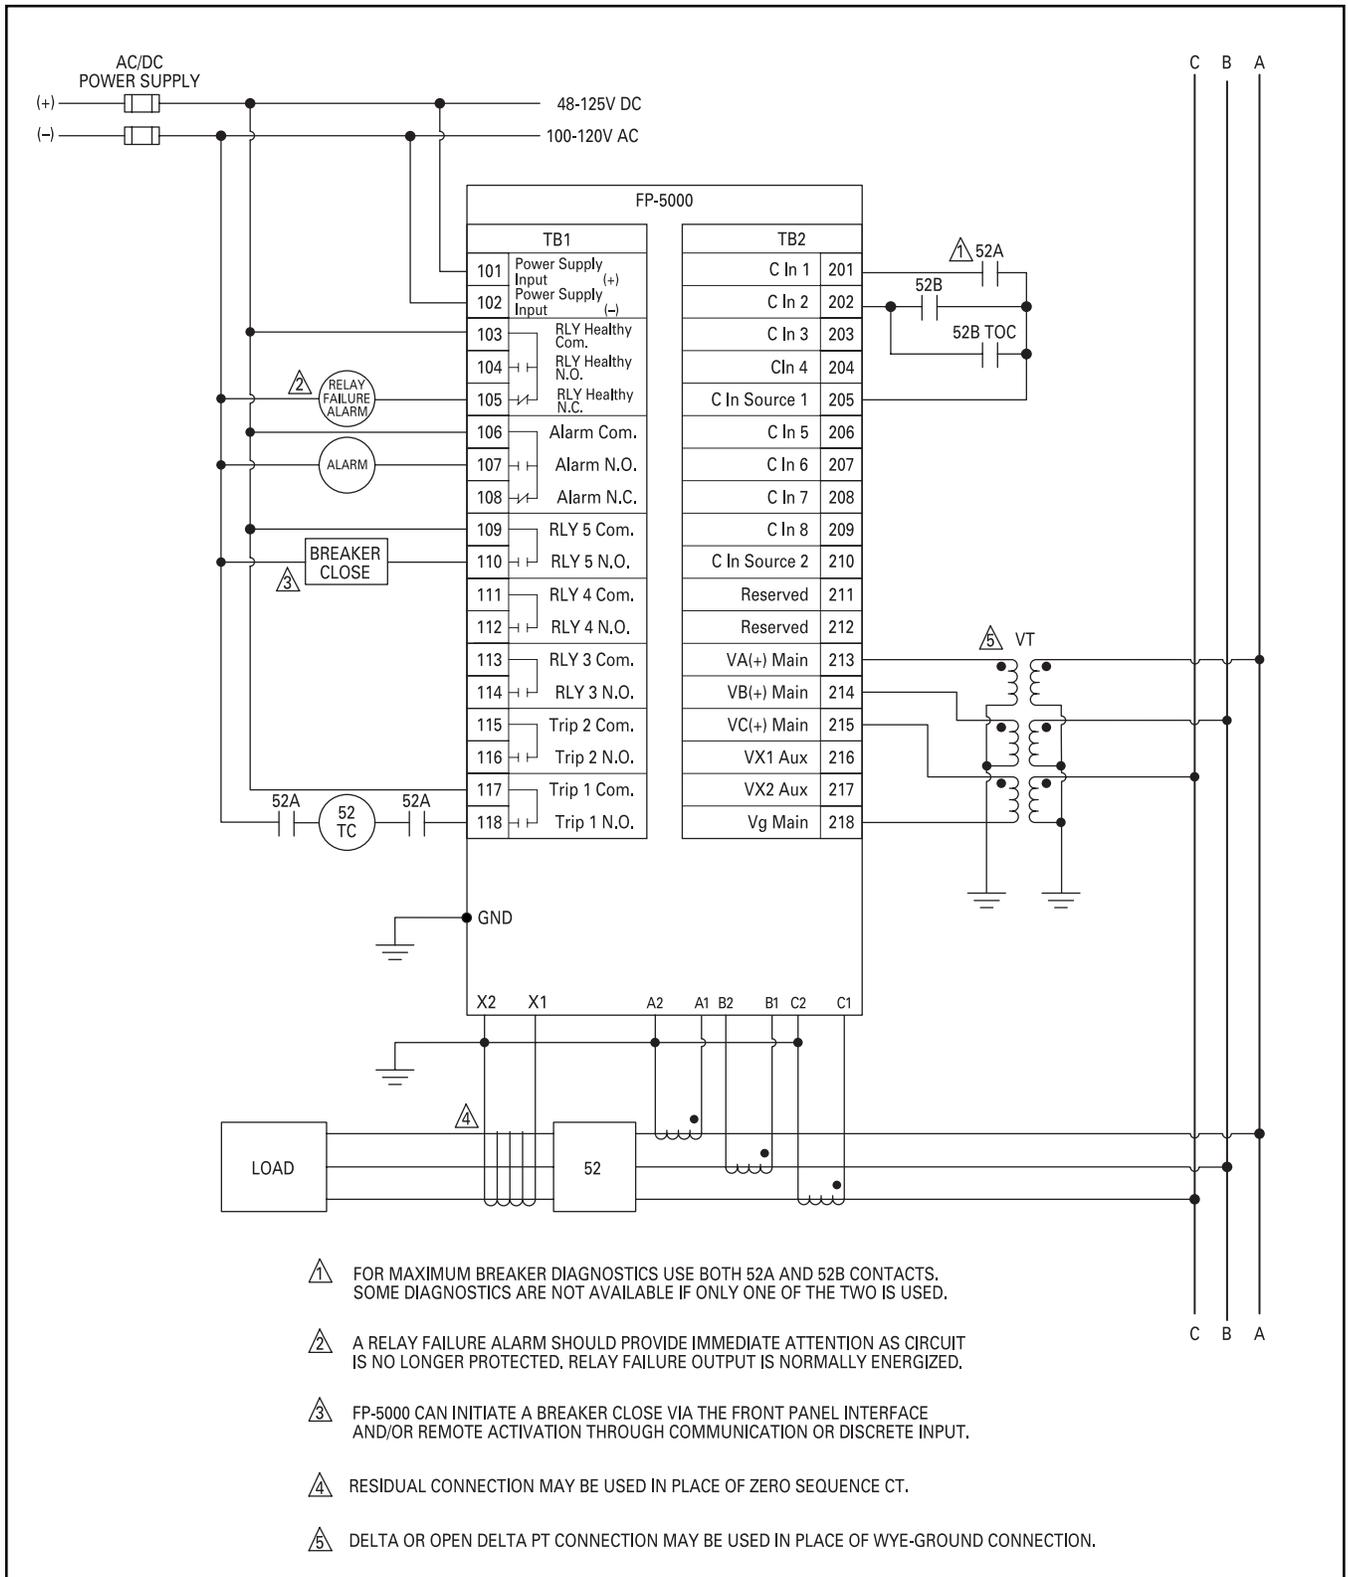
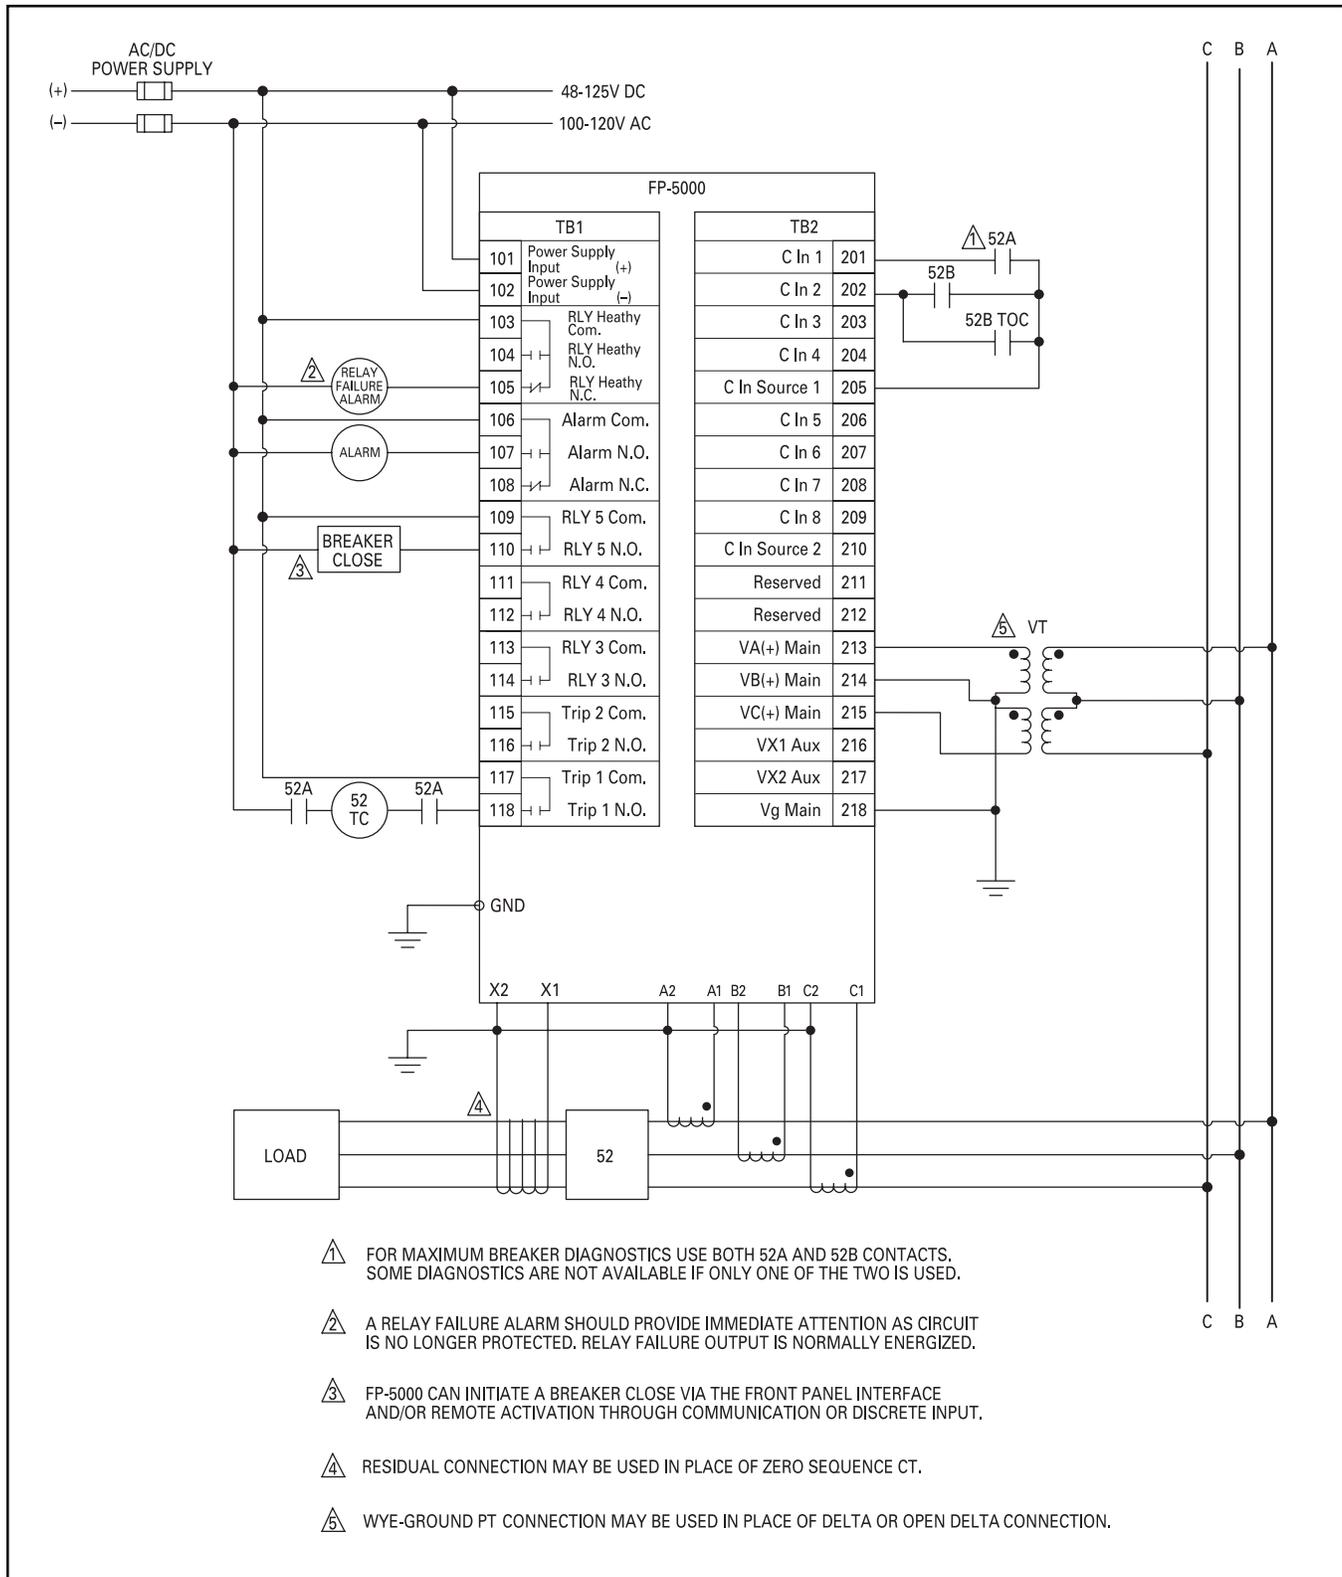
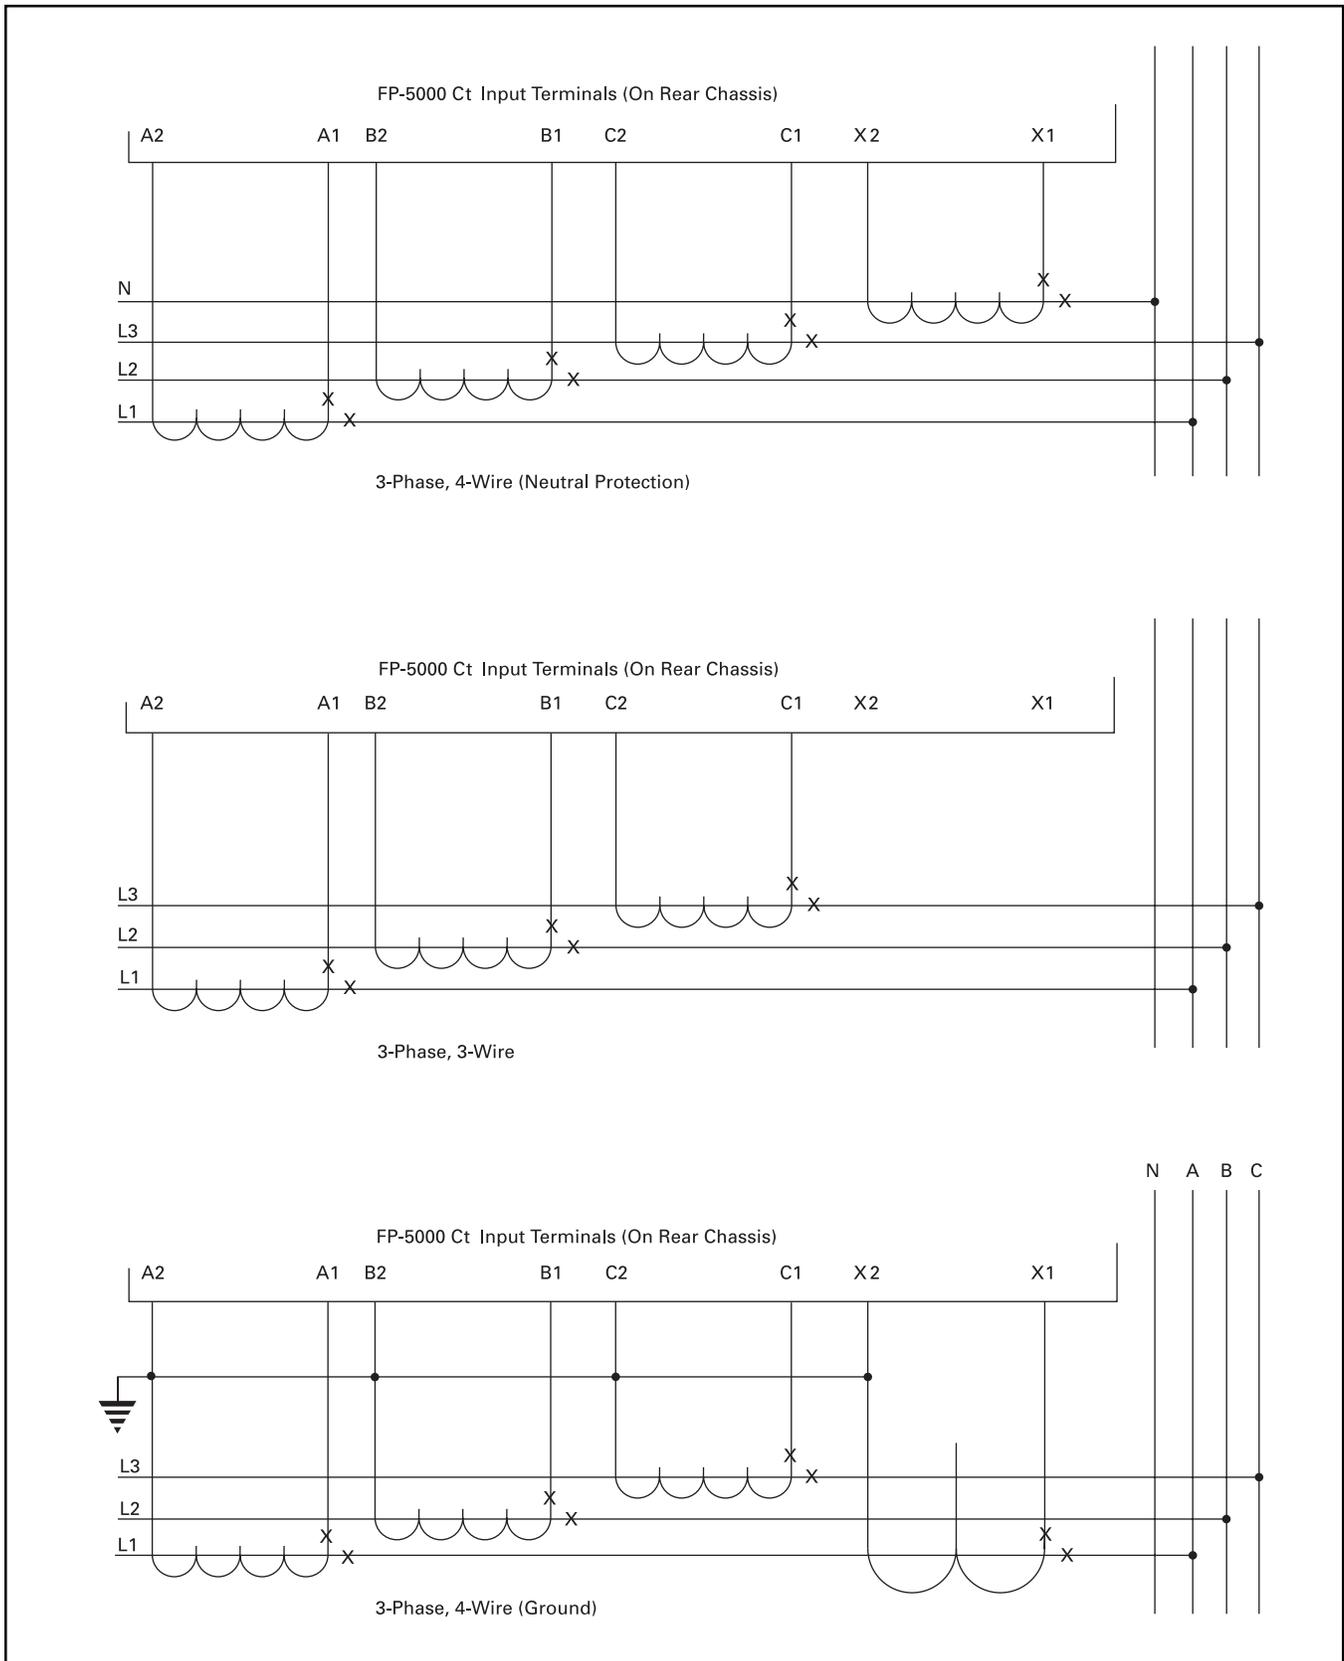

Figure 6-8. Voltage Wye Input Wiring Options and Connection Schematics
Figure 6-9. Voltage Delta Input Wiring Options and Connection Schematics
Figure 6-10. Common Ct Wiring Configurations
Connect the phase and optional ground Cts as shown in Figure 6-8. Pay attention to the phase identification and sequence, and check for consistent polarity among the three phases. The FP-5000 unbalance protection will pick up and operate if two phases are swapped, or if the polarity of any Ct is reversed with respect to the other two. See Figure 6-10 for other common wiring configurations such as 3-phase 3-wire, 3-phase 4-wire, 3-phase 3-wire with ground fault protection.
Every phase and ground Ct circuit must have one and only one grounding point. **Figure 6-8** shows the common neutral connection of the three-phase Cts, and the ground fault Ct, connected at one point to a non-current-carrying ground. Do not use a neutral or current-carrying conductor for this grounding – the noise will disrupt FP-5000 measurements.
Wiring of the VTs into the FP-5000 phase voltage input terminals can be achieved several ways. **Figure 6-8** gives a common example of the VT Wye wiring. In **Figure 6-9**, a Delta configuration is implemented using only two transformers, saving cost, weight and size. The transformer polarity indicated by polarity dots must be carefully considered when designing the VT into the system. It should be noted that the secondary side of the transformer center tap is tied to common, input VB (+) terminal 214, and VG terminal 218.
**Figures 6-8** and **6-9** show typical connections of FP-5000 output relay contacts in control circuits. However, the outputs are completely programmable, so there can be numerous choices in selecting and using these outputs for tripping, alarming and auxiliary control.
Refer to **Figure 6-8** or **6-9**. Connect terminals 101 and 102 to a source of control power rated at either 100 –120V AC or 48–125V DC. Nominal values other than these voltages are not acceptable. However, the FP-5000 is capable of handling depressions, dips, and limited sustained variations in the normal course of service. See Section 3 Specifications.
The optically isolated contact inputs are “dry contact inputs.” The actuating or wetting voltage is provided by the FP-5000. Each input is activated by connecting it through an appropriate contact to the provided voltage. The return, common connection, or DC negative rail associated with the “wetting voltage” is internal only and is not provided to the user (See **Figure 6-9**). The wetting voltage and current requirements of the external contacts should be reviewed for compatibility with the FP-5000’s 40V DC source voltage and 2mA current draw. The particular contacts to be connected depend on the settings programmed in the FP-5000. There is a complete list of functions which can be assigned to each of these inputs.
Pins 213–218 are phase A, B, C, Auxiliary and ground voltage inputs from the VT (voltage transformer) module. The VT module is used to measure the line voltage and steps down the voltage to a smaller potential. It also provides isolation to the FP-5000 and from the voltage bus. **Figure 6-8** and **Figure 6-9** show Delta and Wye connected feeder protection, respectively.